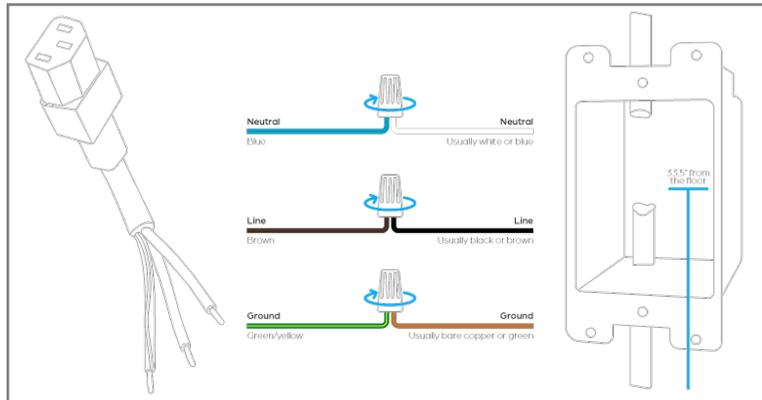

Figure 19.
Step 8: Connect the power cord whip to the rough electrical within the junction box and store any excess cabling in the junction box (Figure 19.).